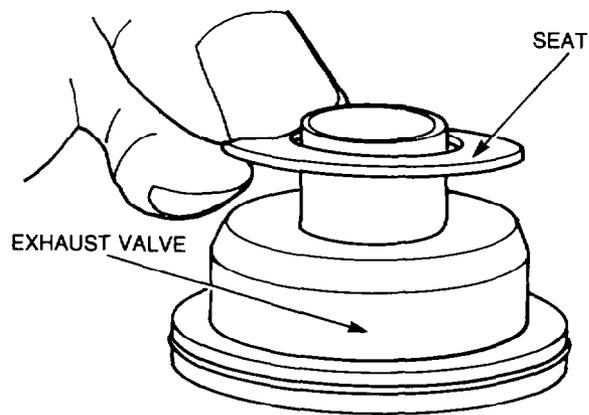

Figure 255 — Exhaust Valve and Seat
j. Position the exhaust valve on the exhaust valve seat (see Fig. 255).